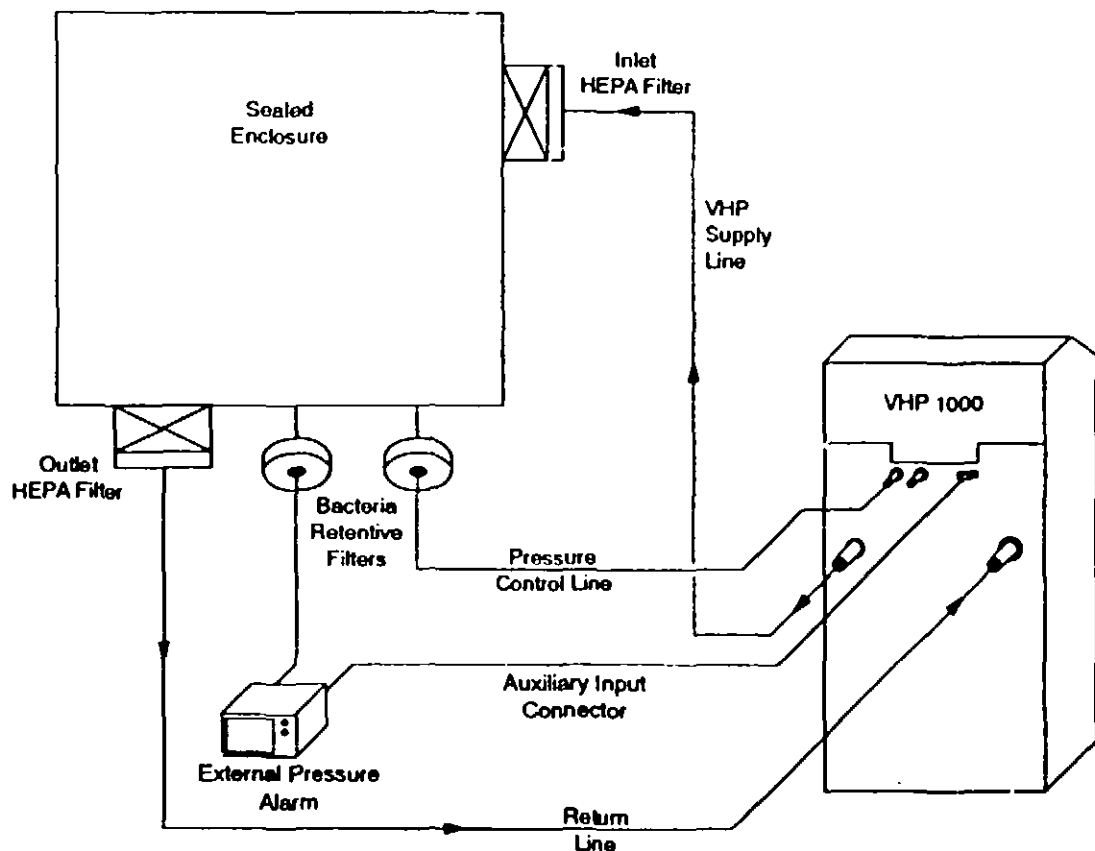

Figure 6-2. VHP Generator/Enclosure Pressure Connection
1. Connect inlet and outlet hoses to pre-cleaned, sealed enclosure ports as follows (see Figure 6-2):
3. If pressure (or vacuum) inside the enclosure is to be controlled by the VHP Generator during the cycle, an External Pressure alarm must be used. To install this sensor, connect the sensor line assembly (short tube, long tube and bacteria-retentive filter) to the enclosure and the Generator as follows (see Figures 6-2 or 6-3):